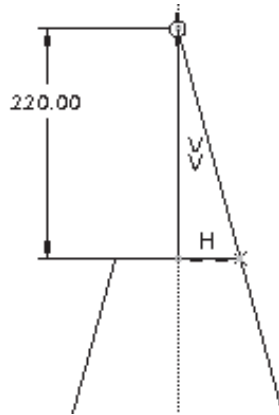

Figure 7-102 Sketch for the tip of the pencil
- e. Create the revolve feature that will create the tip of the pencil, refer to Figures 7-102 and 7-103.
3. After entering the sketcher environment, draw the sketch, apply constraints, and dimension it, as shown in Figure 7-102.